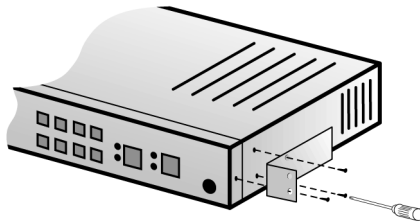

Figure 6. FriendlyNET GX4 Optional Rack Mounting Bracket
2. Insert each screw through the bracket and into a mounting hole in the switch as shown in Figure 6.